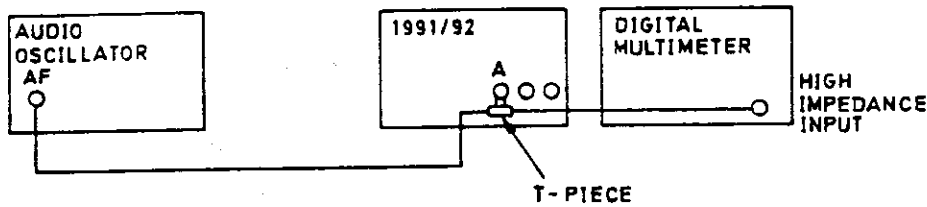

Figure 6.28 - Connections for Channel A Sensitivity PVP (II)
6.9.2.3 Channel A PVP (II)
- a. Connect the test equipment as shown in Figure 6.28